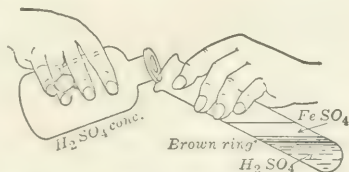

Fig. 60. Testing for nitrate ions with ferrous sulphate solution.
c. **Test for the nitrate ( $\text{NO}_3^-$ ) ion.** This is a very delicate test, and the directions must be followed with care. Pour into a test tube about 3 cc. of ferrous sulphate ( $\text{FeSO}_4$ ) solution. Add to it 2 drops of dilute nitric acid and shake the test tube. Holding the tube in an inclined position, pour 2 cc. of concentrated sulphuric acid slowly down the side of the tube (Fig. 60). The heavy acid will run down the tube and form a separate layer under the mixture of the other two solutions. *Describe the coloration in the ring where the two layers meet.* Repeat this test using a very small amount of sodium nitrate dissolved in 2 cc. of water instead of the dilute nitric acid.